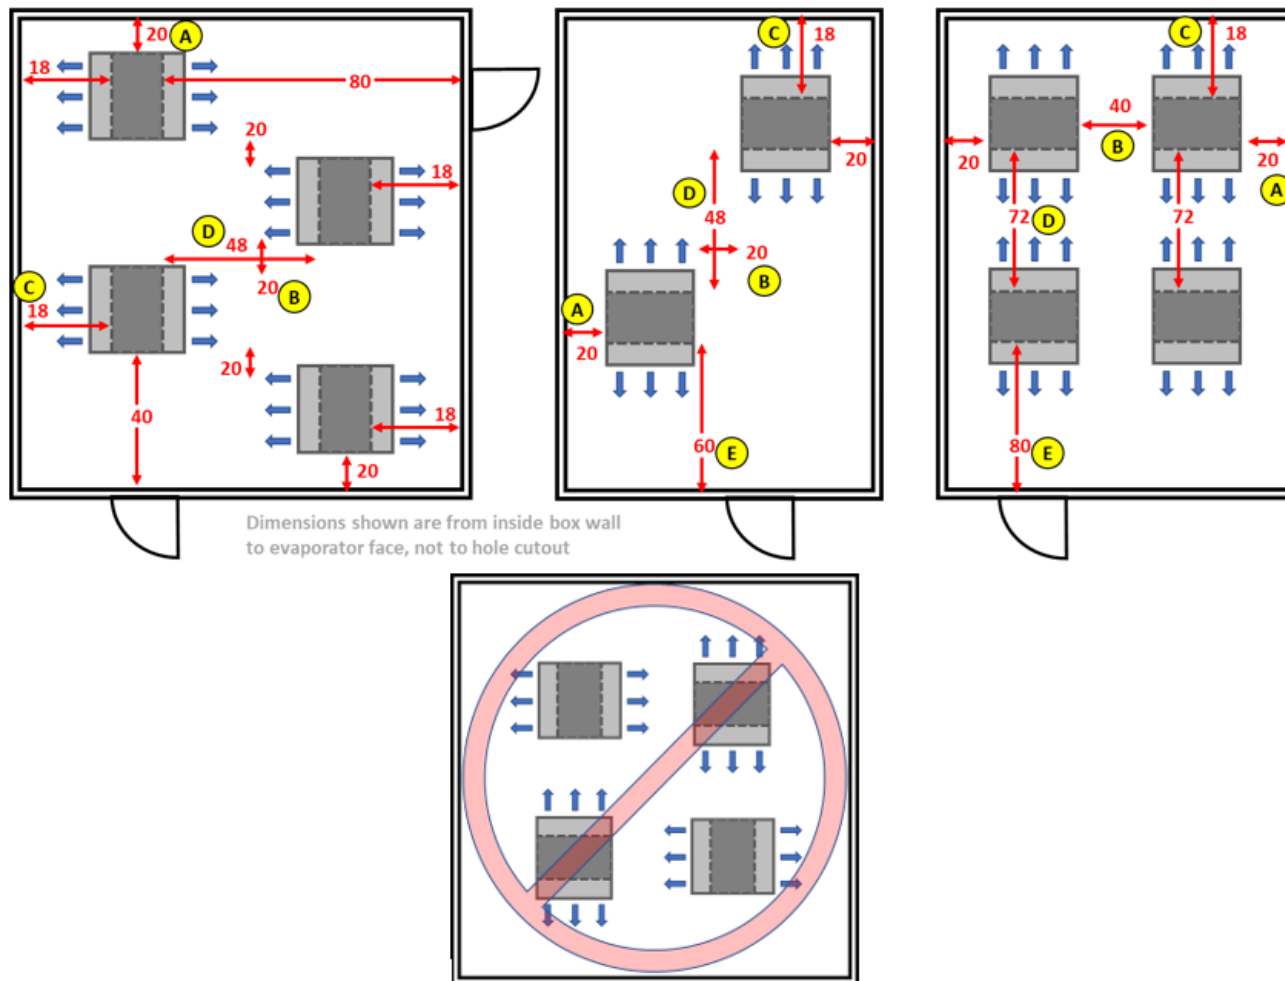

Figure 2 – Roof Top Air Flow View - cold side – Minimum Distances for Installation
- Standard distance between the evaporating unit side and the room walls or stored product is 20". See "A" in the Figure 2.
- Standard distance between the evaporating unit side and the near evaporating unit side is 20" when staggered or 40" when in-line. See "B" in the Figure 2.
- Minimum distance between evaporator air outlet side and room wall or stored product is 18". See "C" in Figure 2).
- Minimum distance between two units, when one evaporator air outlet side is in-line with the other, is 72" if the two units are staggered, this minimum distance is 48". See "D" in Figure 2.
- The minimum distance between the evaporator air outlets if blowing direct to the door is 80". If not blowing directly, it is 60". See "E" in Figure 2.
- See Figure 2 for the minimum distances recommended for staggered and in-line installations.
- Do not rotate the units. The hot air outlet from one unit will be blown to the inlet side of the other unit (same as shown above in Figure 2)